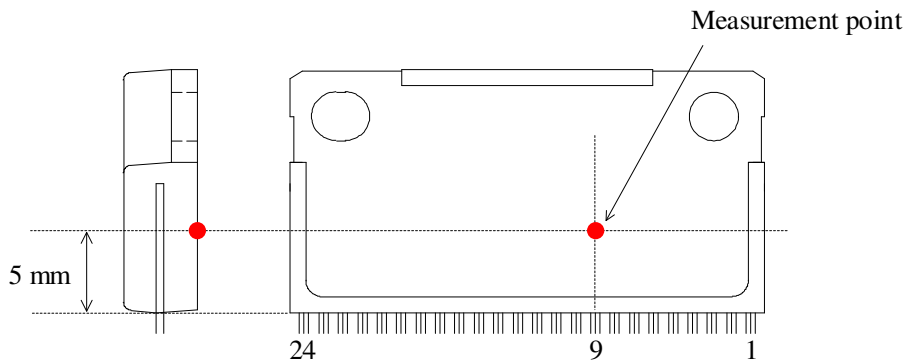

Figure 3-1. Case Temperature Measurement Points
(1) Refers to a case temperature at the measurement point described in Figure 3-1, below.